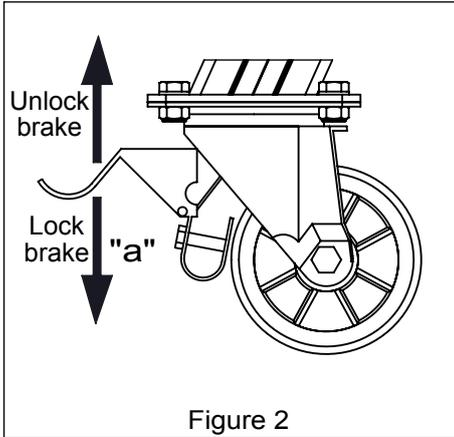

Figure 2
- Lock the wheel brakes on the both "A" legs - Figure 2 - step "a".